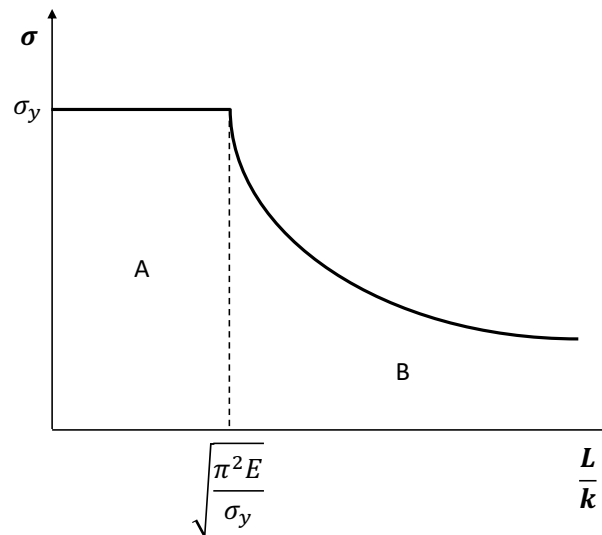

Figure Q2
2. In Figure Q2, regions A and B represent regions of: